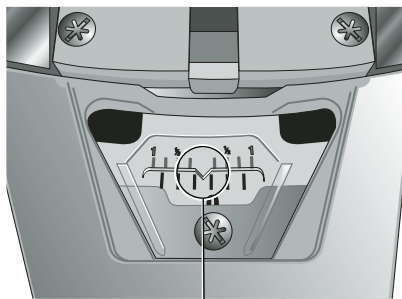

FIG. V2
2. Set the miter angle to the nearest whole degree desired by aligning the center mark in the vernier scale, shown in Figure V1, with the whole degree number etched in the miter scale. Examine Figure V2 closely; the setting shown is 24 degrees right miter.
3. To set the additional 1/4 degree, squeeze the miter arm lock and carefully move the arm to the RIGHT until the 1/4 degree vernier mark aligns with the CLOSEST degree mark on the miter scale. In our example, the closest degree mark on the miter scale happens to be 25 degrees. Figure V2 shows a setting of 24-1/4 degrees right miter.